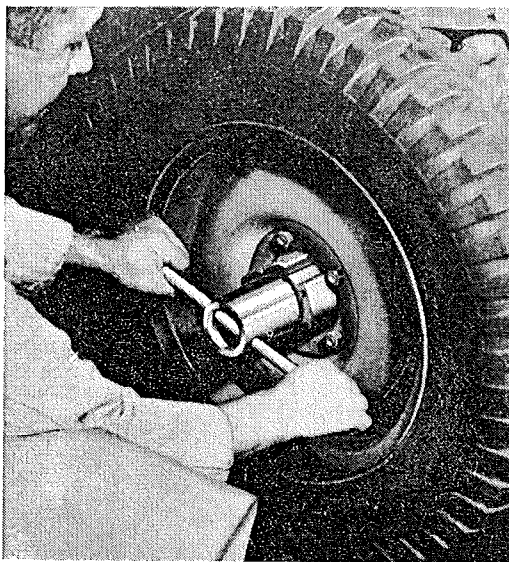

FIG. 129—FRONT WHEEL BEARING NUT WRENCH
e. Release the locking lip on the lock washer and remove the outer nut, lock washer, adjusting nut, and bearing lock washer. Use Wrench, Tool W-144, (Fig. 129) for removal of the nut.
- e. Grease and assemble wheel bearings (4) and (21) and hub oil seal (19). Install the wheel hub and drum on the wheel bearing spindle. Install the wheel bearing washer and adjusting nut. Tighten nut with Wrench, Tool W-144, as shown in Fig. 129, until there is a slight drag on the bearings when the hub